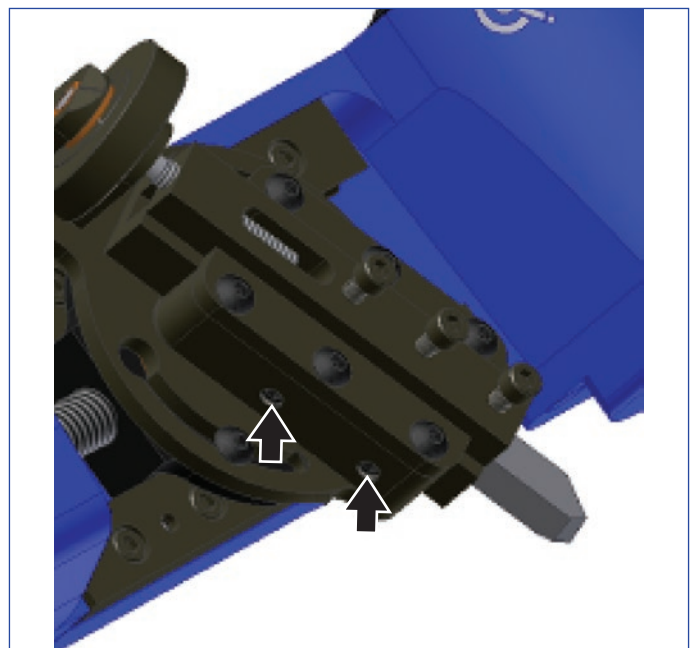

Figure 8
6. Remove any slop in the tool block by adjusting the tool block setscrews (**see Figure 8**). Slightly tighten or loosen the setscrews until the depth adjustment screw freely rotates but is not hard to turn.
Adjust brass tip setscrews (**see Figure 8**).